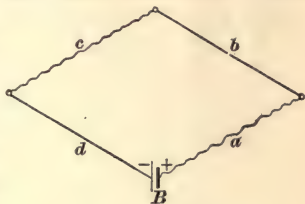

FIG. 6.
18. Conductors are said to be connected **in series** when they are so joined together as to allow the current to pass consecutively through each. For example, Fig. 6 represents a *closed* circuit consisting of a simple voltaic cell *B* and four conductors *a*, *b*, *c*, and *d* connected *in series*.